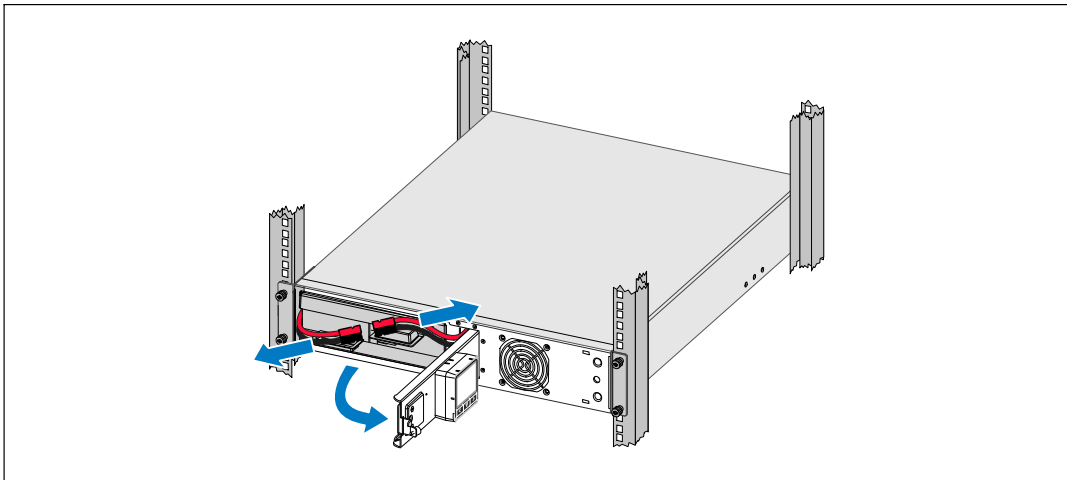

Figure 36. Disconnecting the Internal Battery Connector
- 5 Disconnect the internal battery connectors (see Figure 36).